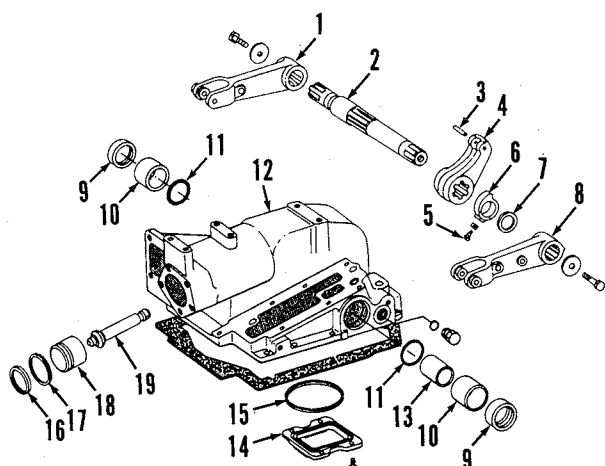

Fig. 250—Exploded view of typical rockshaft housing showing component parts. Inner bushing (13) is not used on Models 4650 and 4850.
Rockshaft piston (18—Fig. 250) can be removed for inspection or renewal without removing rockshaft housing. Remove cylinder end cover, then push piston out by pushing down on rockshaft arms.
To disassemble rockshaft, use a suitable puller to remove lift arms (1 and 8—Fig. 250). Remove bottom cover (14) from housing. Remove set screw (5) from servo cam (6), then drive rockshaft out left side of housing on Models 4050, 4250 and 4450 or out right side of housing on Models 4650 and 4850. Remove crank arm (4), servo cam (6) and spacer (7) as shaft is withdrawn.